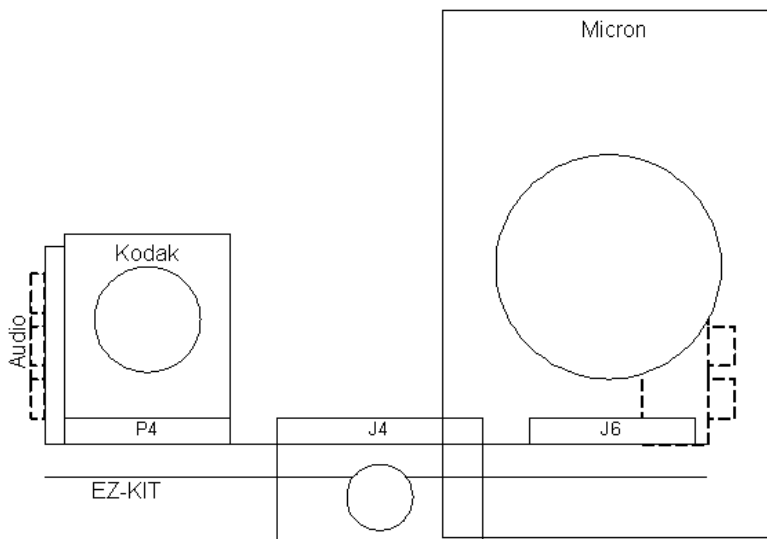
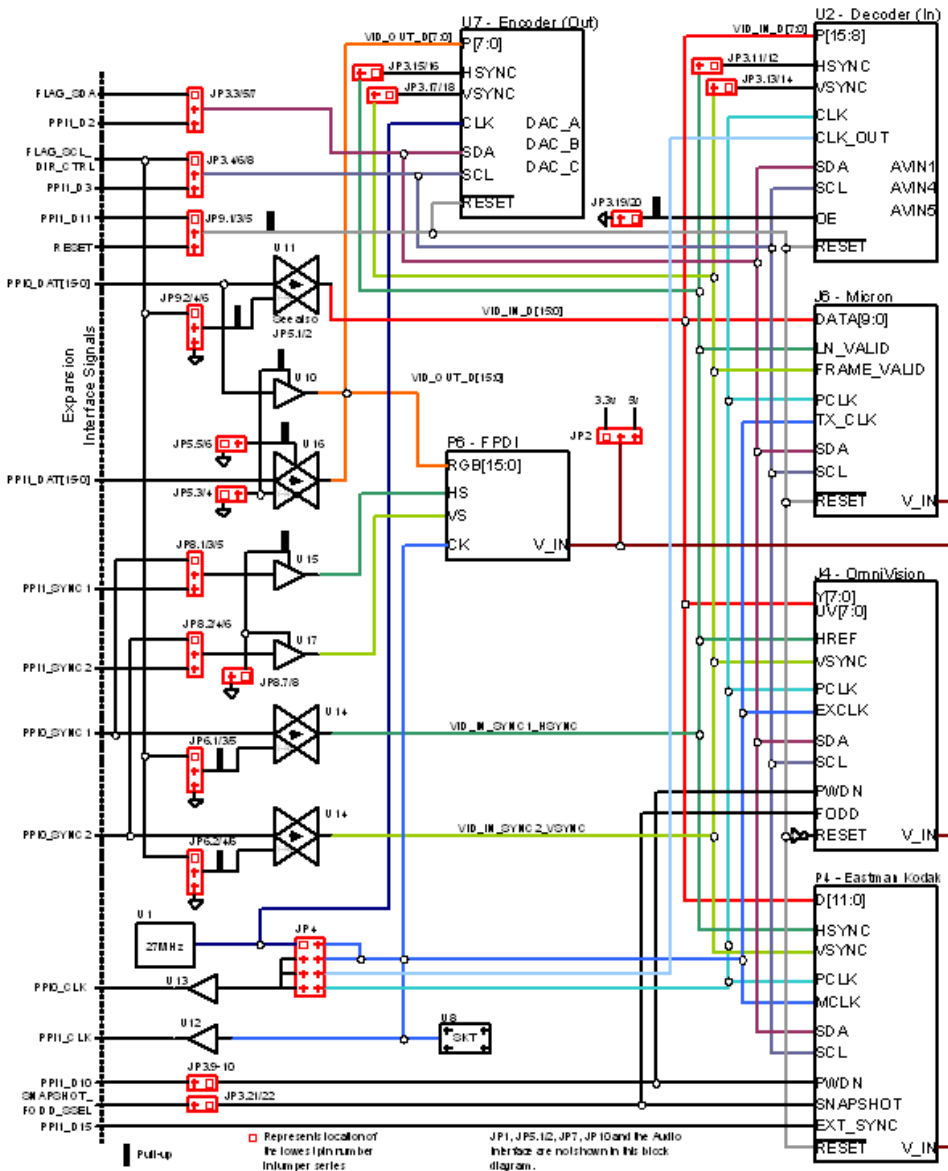

Figure 1-1. Camera Orientation
Figure 2-1. A-V EZ-Extender Block Diagram
3. Set the jumpers on the extender board. Use the block diagram in Figure 2-1 on page 2-3 in conjunction with “Jumpers” on page 2-7.
The Blackfin A-V EZ-Extender supports audio applications with the on-board AD1836A multichannel 96 kHz audio codec. The AD1836A codec is a high-performance single-chip device that provides three stereo digital-to-analog converters (outputs) and two stereo analog-to-digital converters (inputs), using Analog Devices patented multibit sigma-delta architecture. The board includes a serial peripheral interface (SPI) port, enabling the processor to adjust volume and other parameters. For a general overview of the audio interface connections, see Figure 2-1 on page 2-3; for details, see “A-V EZ-Extender Schematic” on page B-1.
The Blackfin A-V EZ-Extender supports video input and output applications with an on-board video encoder and decoder. The ADV7179 video encoder provides up to three output channels of analog video, while the ADV7183B video decoder provides up to three input channels of analog video. Both the encoder and decoder connect to PPI0 of the expansion interface, while the encoder also can connect to PPI1 (if the processor has two PPI ports). For a general overview of the analog video interface connectors, see Figure 2-1 on page 2-3; for details, see “AV\\_RESET Source Jumper \(JP9.1/3/5\)” on page 2-14.
The Blackfin A-V EZ-Extender has three right-angle connectors (J4, J6, and P4) with control signals necessary to interface with three camera evaluation modules from different manufactures. For a general overview of the camera interface connections, see Figure 2-1 on page 2-3; for details, see “A-V EZ-Extender Schematic” on page B-1. Figure 1-1 shows the orientation of the camera modules as each camera connects to the board.
The flat panel display interface (FPDI) consists of a 31-pin DB9 connector linked to the PPI port and frame sync signals of the processor. For a general overview of the display interface connections, see Figure 2-1 on page 2-3; for details, see the “A-V EZ-Extender Schematic” on page B-1.
A block diagram of the Blackfin A-V EZ-Extender is shown in Figure 2-1.
In Figure 2-1, unidirectional buffers are shown as triangle symbols, while bidirectional buffers are shown as two overlapping triangles. For both types of buffers, an output-enable signal comes out of the top and is active `LOW`. For bidirectional buffers, a second signal for the direction is shown. When this net is pulled `HIGH`, the buffer is driving in the direction of the arrow in the center; when `LOW`, the buffer is driving in the opposite direction.
The PPI\_CLK signals of PPI0 and PPI1 are configured by the clock setup jumpers (see Table 2-5). For more information, refer to Figure 2-1 on page 2-4.